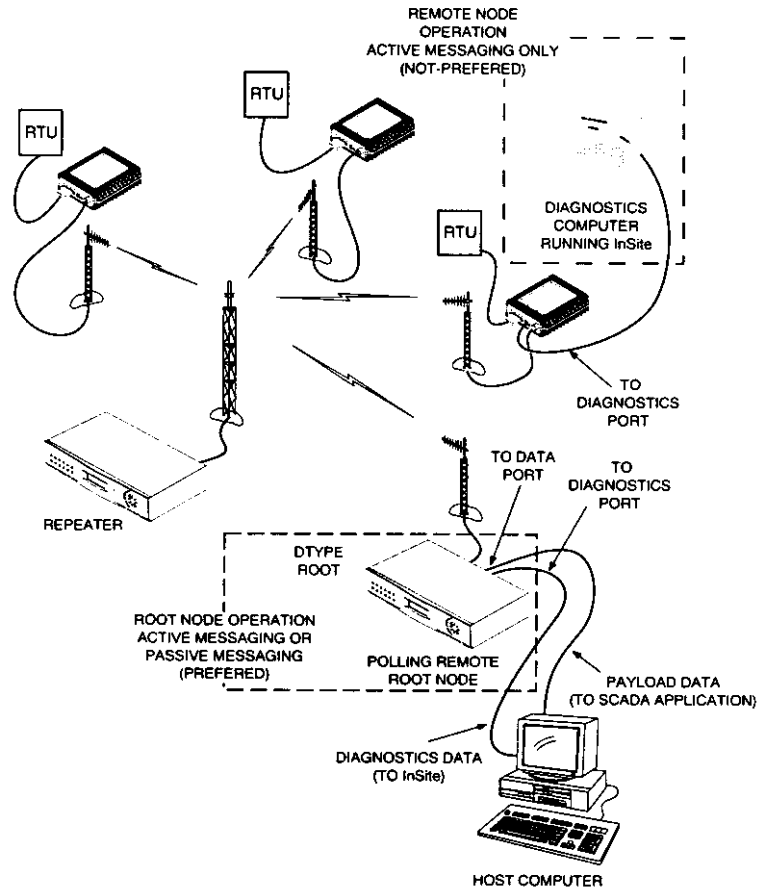

Figure 12. Network-Wide Remote Diagnostics Setup
Diagnostics data from a remote radio can be obtained by connecting a laptop or personal computer running MDS InSite diagnostics software to any radio in the network. Figure 12 shows an example of a setup for performing network-wide remote diagnostics.
6. Connect a PC on which MDS InSite software is installed to the root radio, or to one of the nodes, at the radio's diagnostic port. (This PC may be the PC being used to collect payload data, as shown in Figure 12.)